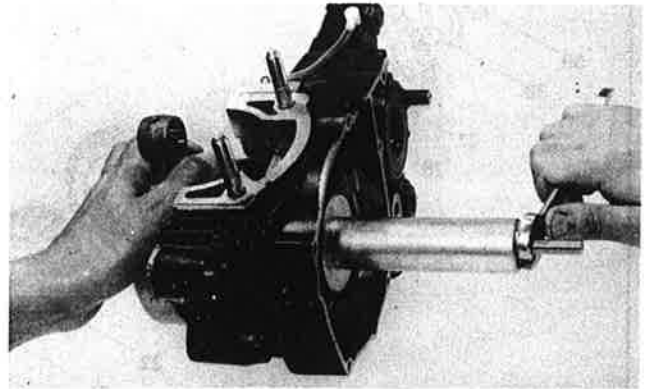

Fig. 3-4-1
1. Put shim on left side of the crankshaft, set the crankshaft into left case half and install crankshaft installing tool. (Fig. 3-4-1)
2. Hold the connecting rod at top dead center with one hand while turning the handle of the installing tool with the other. Operate tool until crankshaft bottoms against bearing. (Fig. 3-4-1)